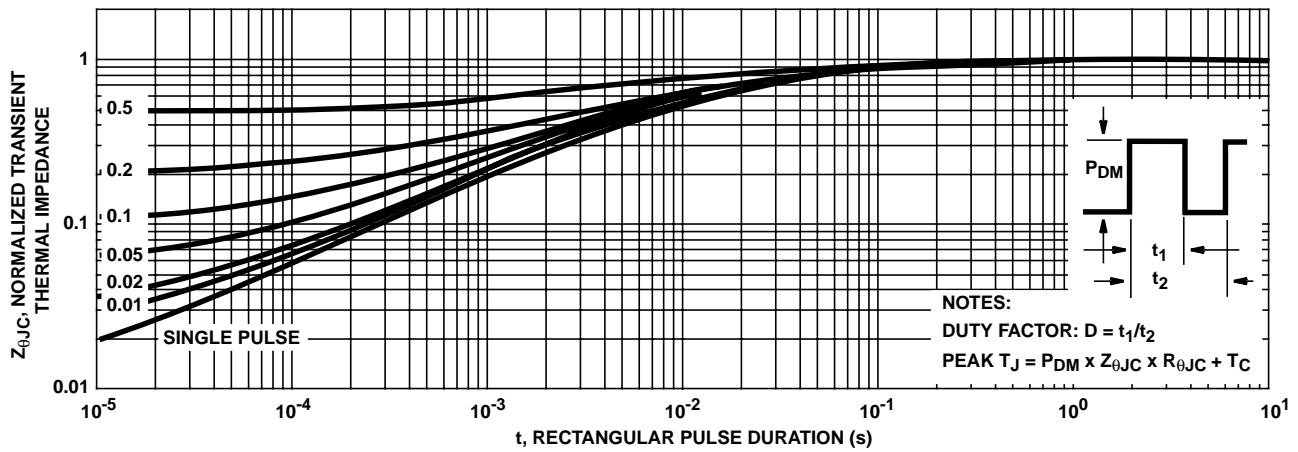

FIGURE 3. NORMALIZED MAXIMUM TRANSIENT THERMAL IMPEDANCE
Pulsed Drain Current (Figures 3, 5) (Note 3)	Refer to Peak Current Curve
- Repetitive rating: pulse width limited by maximum junction temperature. See Transient Thermal Impedance curve (Figure 3).